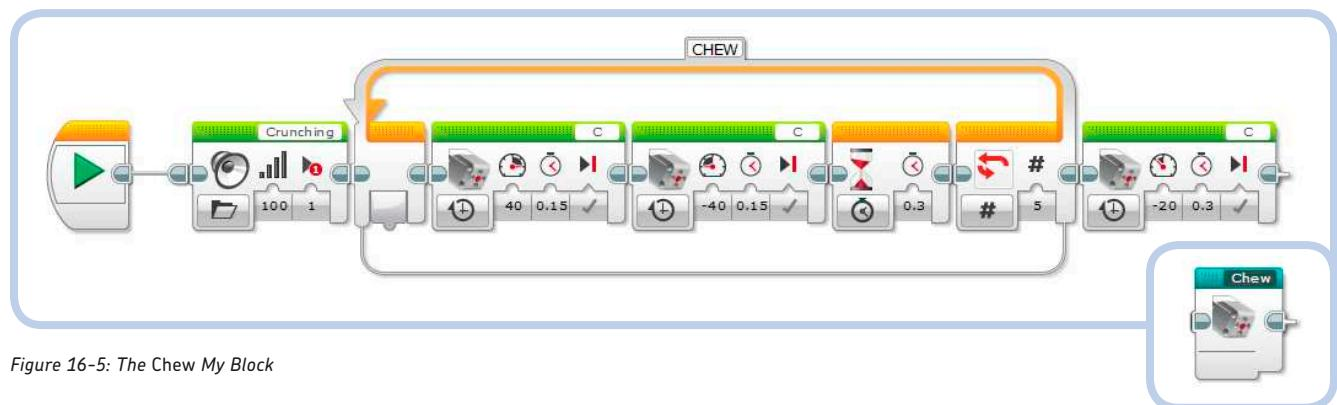

Figure 16-5: The Chew My Block
The *Chew My Block* (Figure 16-5) makes the robot chew its prey. The mouth opens and closes in sync with the *Crunching* sound. Notice that the *Play Type* is set to **Play Once (1)** in the Sound block to make the program flow continue while the sound is played. (If we had selected the *Wait for Completion* Play Type, the block would pause the program until the sound finished.)